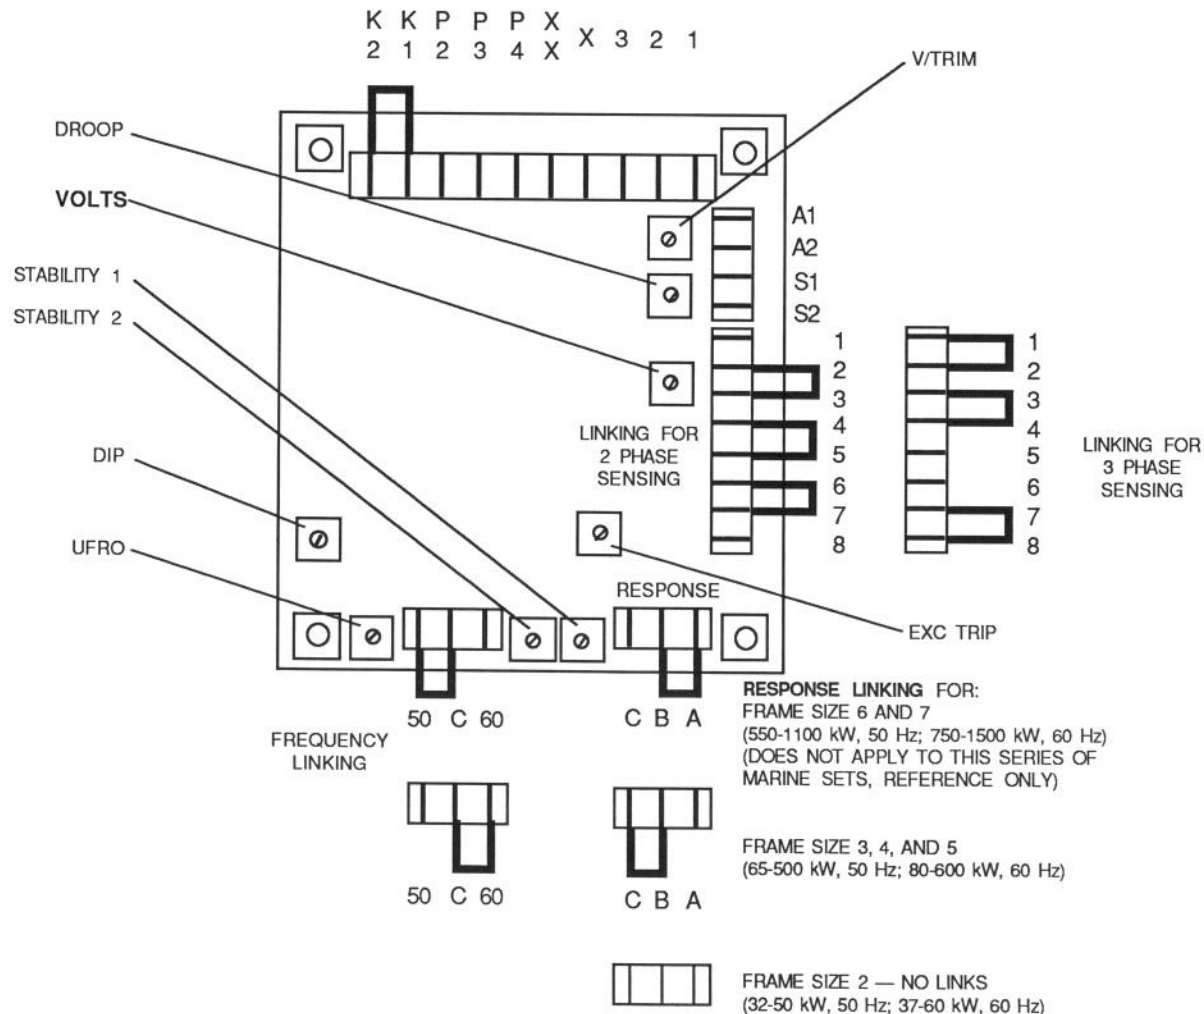

FIGURE 5-2. VOLTAGE REGULATOR WIRING DIAGRAM
3. Carefully adjust the VOLTS control (clockwise to increase output voltage; counterclockwise to decrease) until rated voltage is reached. Refer to Figure 5-2 for location of VOLTS control. Do NOT make any other